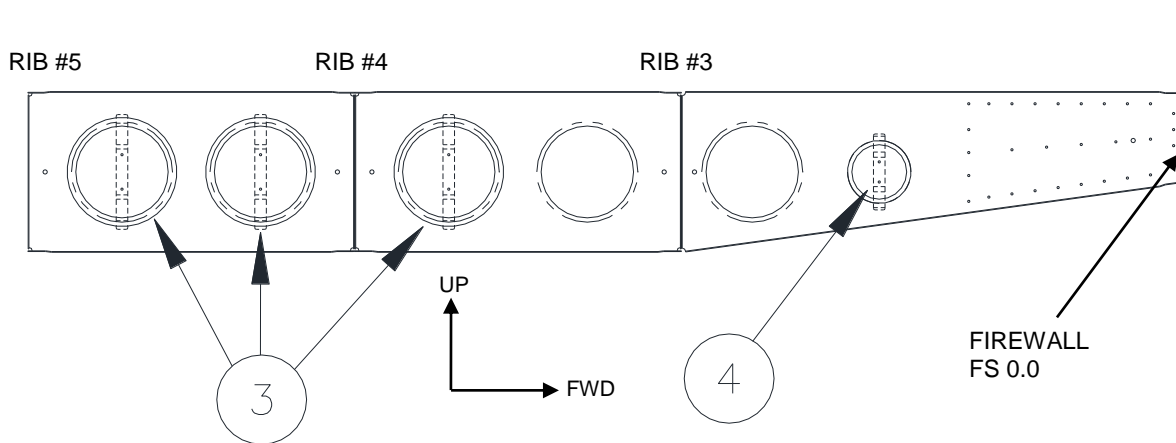
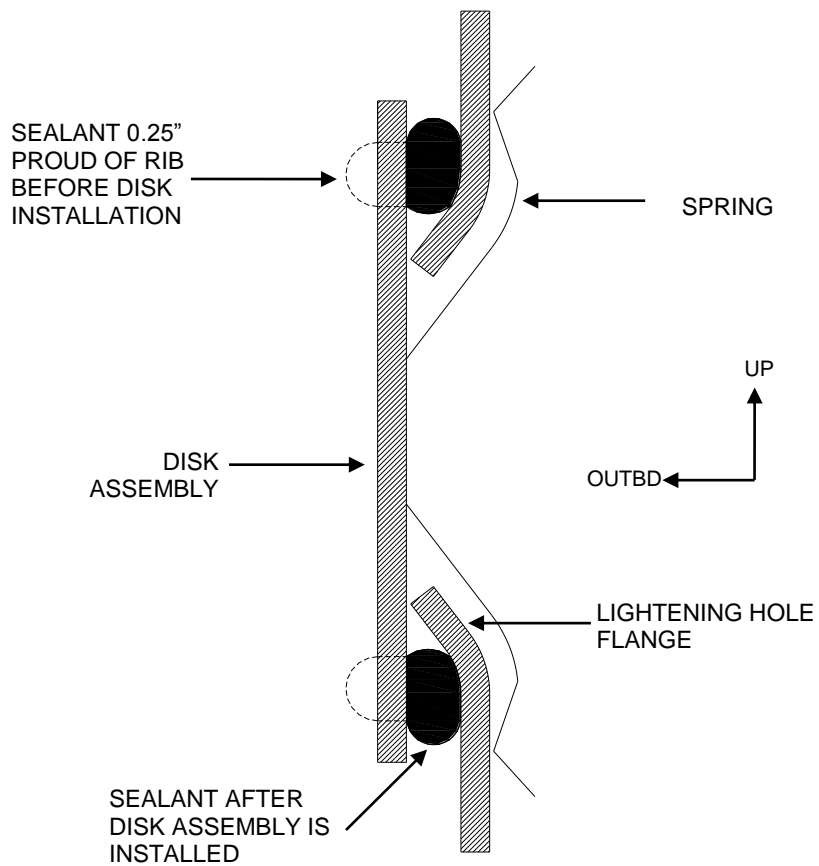

Figure 20: Disk installation on RH Console Ribs
Figure 21: Disk installation to RH Console Rib
2. Clean around the lightening holes on the outboard surface of the RH Console Ribs where the Disk Assemblies are to be installed, shown in Figures 20 and 21, using a solvent cleaner and lint free cloth. Wipe the surface dry using a clean lint free cloth.
3. Apply Sealant (Item 12) on the outboard surface of the RH Centre Console Ribs, around the edge of each lightening hole flange identified in Figure 20 and shown in Figure 21. Apply a continuous seam of sealant around the entire circumference using a spatula or similar, ensuring the seam is at least 0.250" proud of the rib web.
4. Install three Disk Assy 4.75" (Item 3) and one Disk Assy 2.75" (Item 4) on the outboard surface of the RH Centre Console Ribs by pinching the upper and lower ends of the springs and pushing the springs through the lightening holes. Ensure spring is aligned vertically. See Figures 20 and 21.